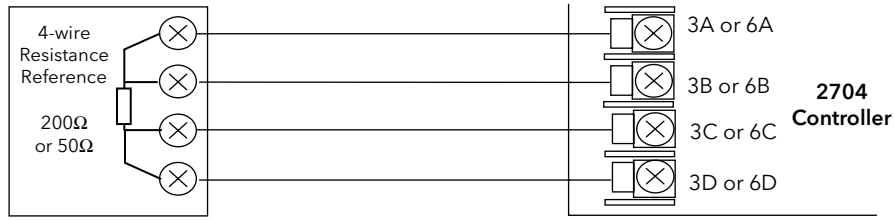

Figure 27-8: High Point Calibration Connections
- Re-connect the 'A' terminal wire as shown in Figure 27-8 and allow at least 4 minutes for the instrument to stabilise. Refer to section 27.5.6.4.